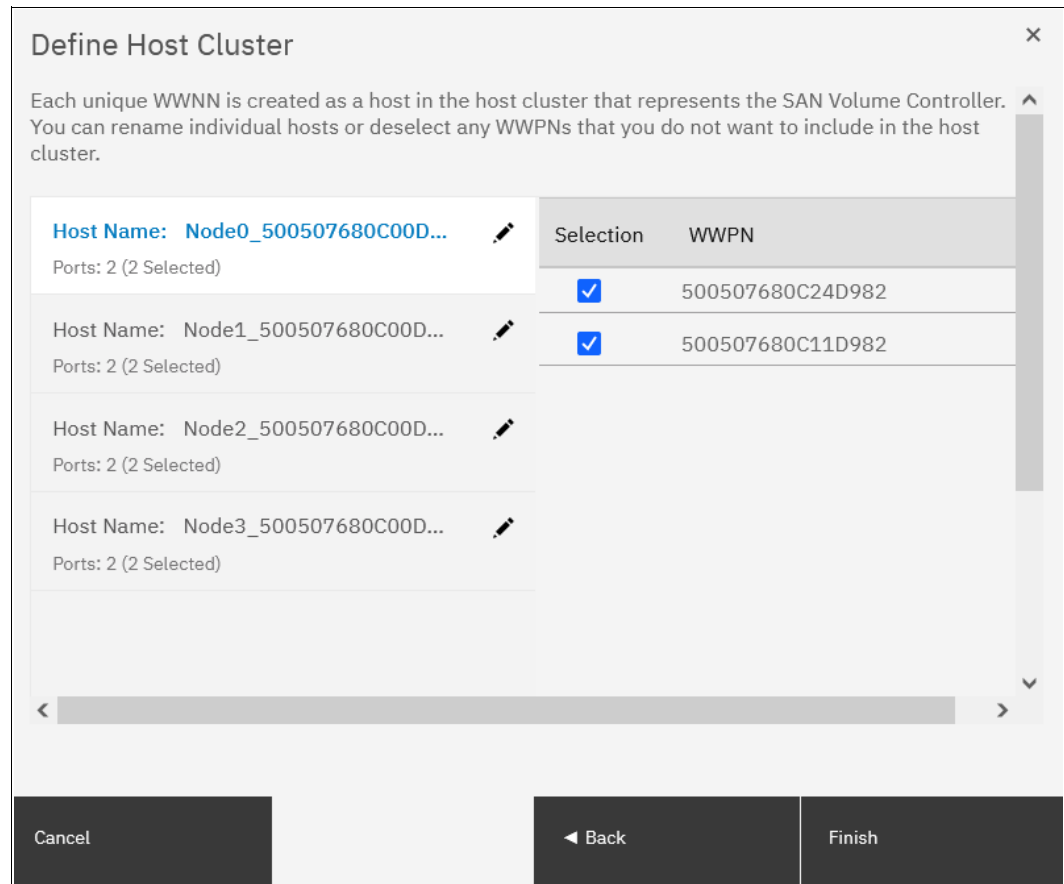

Figure 2-63 Hosts inside an IBM SAN Volume Controller host cluster
5. When all nodes of an IBM SAN Volume Controller cluster (including the spare cluster) are selected, you can change the host object name for each one, as shown in Figure 2-63 on page 72. For convenience, name the host objects to match the IBM SAN Volume Controller node names or serial numbers.